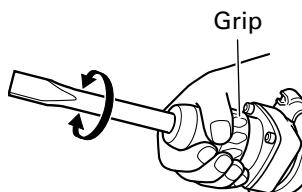

Fig. 9
- Turn the grip as illustrated in Fig. 9 and fix the tool to the desired working direction.
- Switch the selector lever to "hammering" according to the procedures mentioned in the above item (1) and secure the position of the tool.